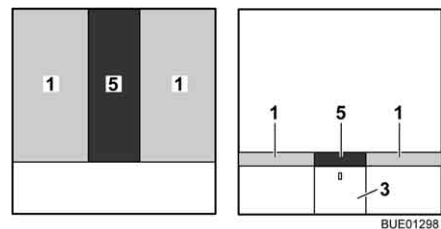

Fig. 138 After conversion
- Place the additional cushion (Fig. 138,5) between the mattresses (Fig. 138,1).